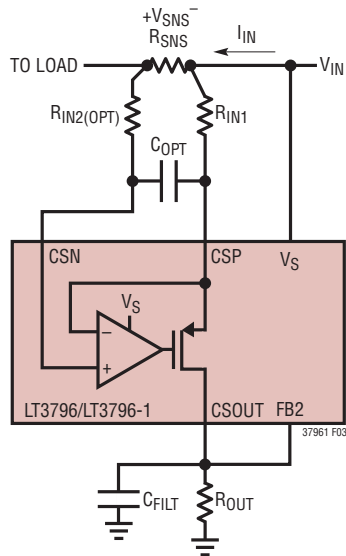

Figure 9. Setting Input Current Limit
**CSN (Pin 26):** Negative Current Sense Input Terminal. CSN remains functional for voltages up to 100V. Typically connected to  $V_S$  and CSP as shown in Figure 9.
**CSP (Pin 27):** Positive Current Sense Input Terminal. The internal sense amplifier sinks current from CSP to regulate it to the same potential as CSN. A resistor ( $R_{IN1}$ ) tied from  $V_{IN}$  to CSP sets the output current  $I_{CSOUT} = V_{SNS}/R_{IN1}$ .  $V_{SNS}$  is the voltage developed across  $R_{SNS}$ . See Figure 9.
The LT3796/LT3796-1 have a standalone current sense amplifier. It can be used to limit the input current. As shown in Figure 9, the input current signal is converted to voltage output at CSOUT pin. When the CSOUT voltage exceeds FB2 regulation voltage, the GATE is pulled low, and the converter stops switching. The input current limit is calculated as follows: